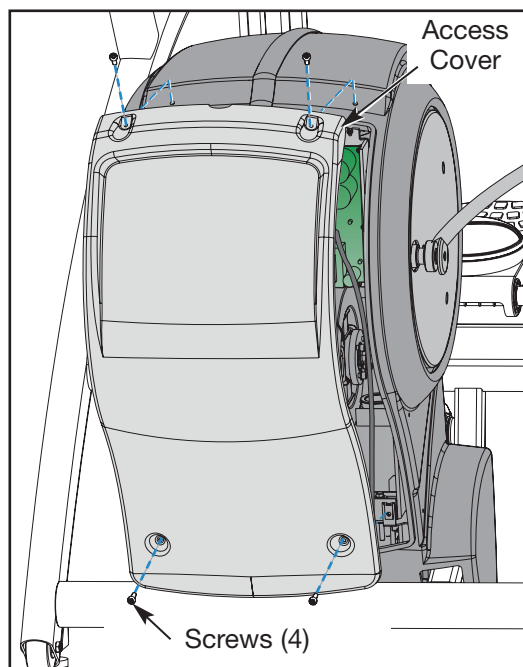
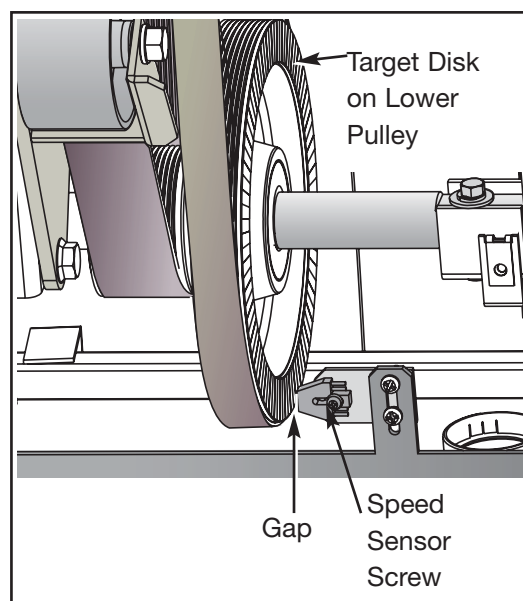

Figure 2
Figure 3
- A. Turn the main power switch above the power inlet to the off (O) position.
- A. Using a Phillips head screwdriver, remove the four screws securing the access cover. See Figure 2.
- A. Turn the lower pulley slowly and look for dirt, scratches or other damage on the target disk. See Figure 3. **NOTE:** If the target disk or speed sensor is dusty use a soft dry cloth to wipe off the dust. A dirty, scratched or damaged disk may cause Error 3 to occur.
- A. Measure the gap between the speed sensor and the lower pulley. It should measure 3/16" (.48 cm) and should be parallel to the lower pulley. See Figure 3.
- A. Using a Phillips head screwdriver, loosen the screw securing the speed sensor in place. See Figure 3. **NOTE:** *Gently bend the side cover to get at the speed sensor screw.*
- B. Adjust the gap between the speed sensor and the lower pulley to 3/16" (.48 cm) and tighten the screw. See Figure 3.
- F. Press **Stop** and turn the power switch to the off (O) position.
- A. While being sure not to pinch any cables, hold the access cover in place. See Figure 2.